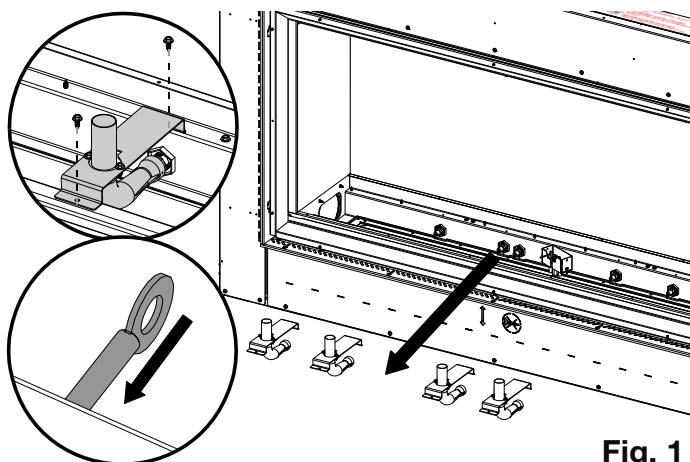

Fig. 1
- D. Remove the venturis by removing 2 screws that secure each bracket (**Fig. 1**).